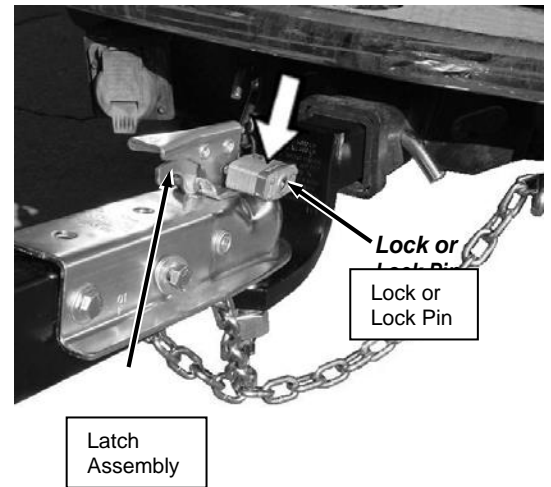

Figure 32
- Forextra safety and security, you may want to purchase a Lock or Lock Pin to install into the Latch Assembly of the Tow-Hitch Package (**Figure 32**).